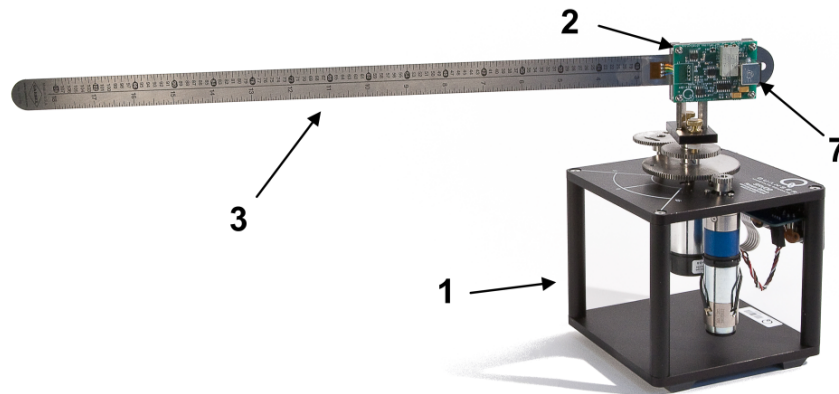
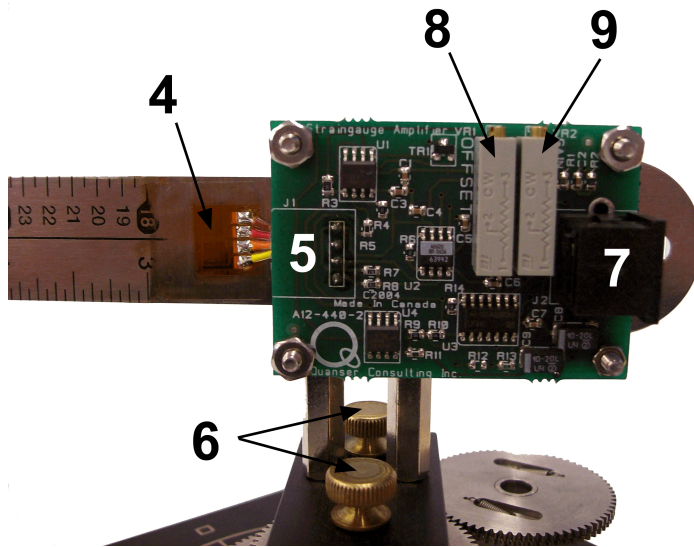
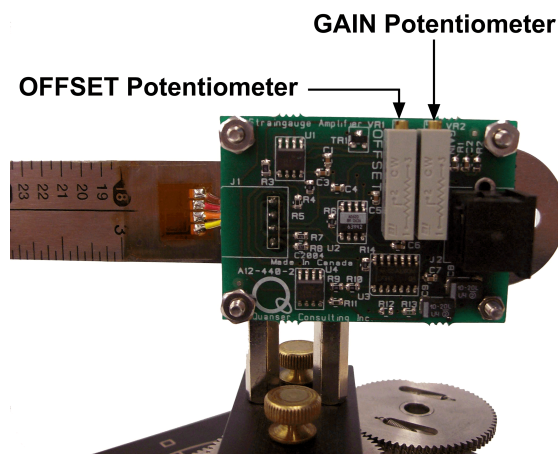

Figure 2.1: FLEXGAGE Coupled to SRV02
Figure 2.2: Strain Gage Closeup
Figure 4.3: Gain and Offset Potentiometers on the FLEXGAGE Circuit
The main components of the rotary flexible link system are listed below in Table 2.1, and labeled in Figure 2.1 and Figure 2.2. Please use the ID # to locate each component in the figures below.
This component is depicted in Figure 2.1 with ID #2, and consists of the FLEXGAGE Link (ID #3 in Figure 2.2), the strain gage, the strain gage circuitry, and a sensor connector. As shown in Figure 2.2, the FLEXGAGE module simply mounts onto the SRV02 plant using two thumbscrews.
The strain gage sensor is depicted in Figure 2.2 with ID #4, and produces an analog signal proportional to the deflection of the tip. There are two potentiometers available on the strain gage circuitry. The OFFSET and GAIN potentiometers are depicted in Figure 2.2 by ID #'s 8 and 9 respectively and are used in the calibration process of the flexible link system. Section 4.3 of this document includes instructions on using these potentiometers to calibrate the system.
2. Place the FLEXGAGE module (ID #2 in Figure 2.1) on the load shaft of the SRV02 plant.
As depicted in Figure 4.3, the FLEXGAGE circuit has two adjustable potentiometers, one to adjust the offset (ID #8 in Figure 2.2) and another to adjust the gain (ID #9 in Figure 2.2).